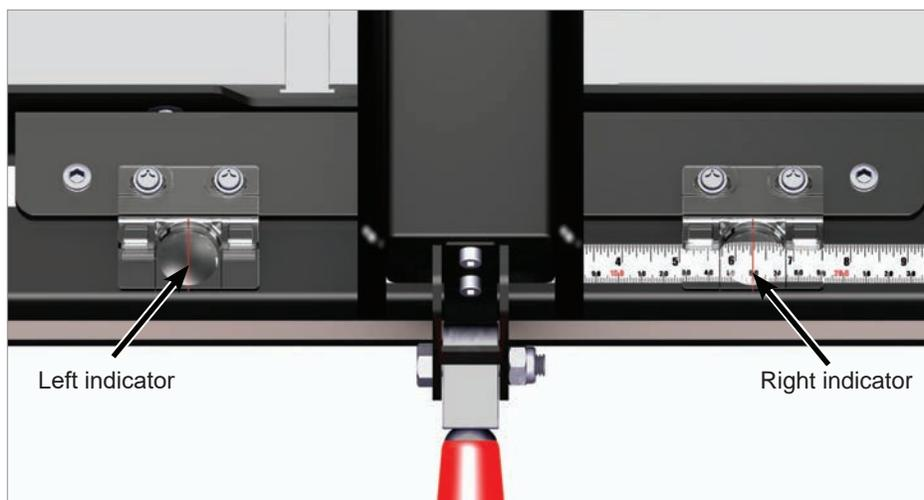

Fig. 34
- i. The fence allows you to precisely set the width of your rip cuts (cuts that are length-wise along the grain of the wood). The precise width of cut is shown by the indicator lenses on the front of the fence (See Fig. 34). The lens on the left indicates the width of cut when the fence is on the left side of the blade. The lens on the right indicates the width of cut when the fence is on the right side of the blade. Each indicator lens is positioned above a ruler on the front tube. Each lens has a red cursor line that indicates the precise width of cut. To read the width of cut, look down at the cursor line. The mark on the ruler that is directly below the cursor line is the width of cut.